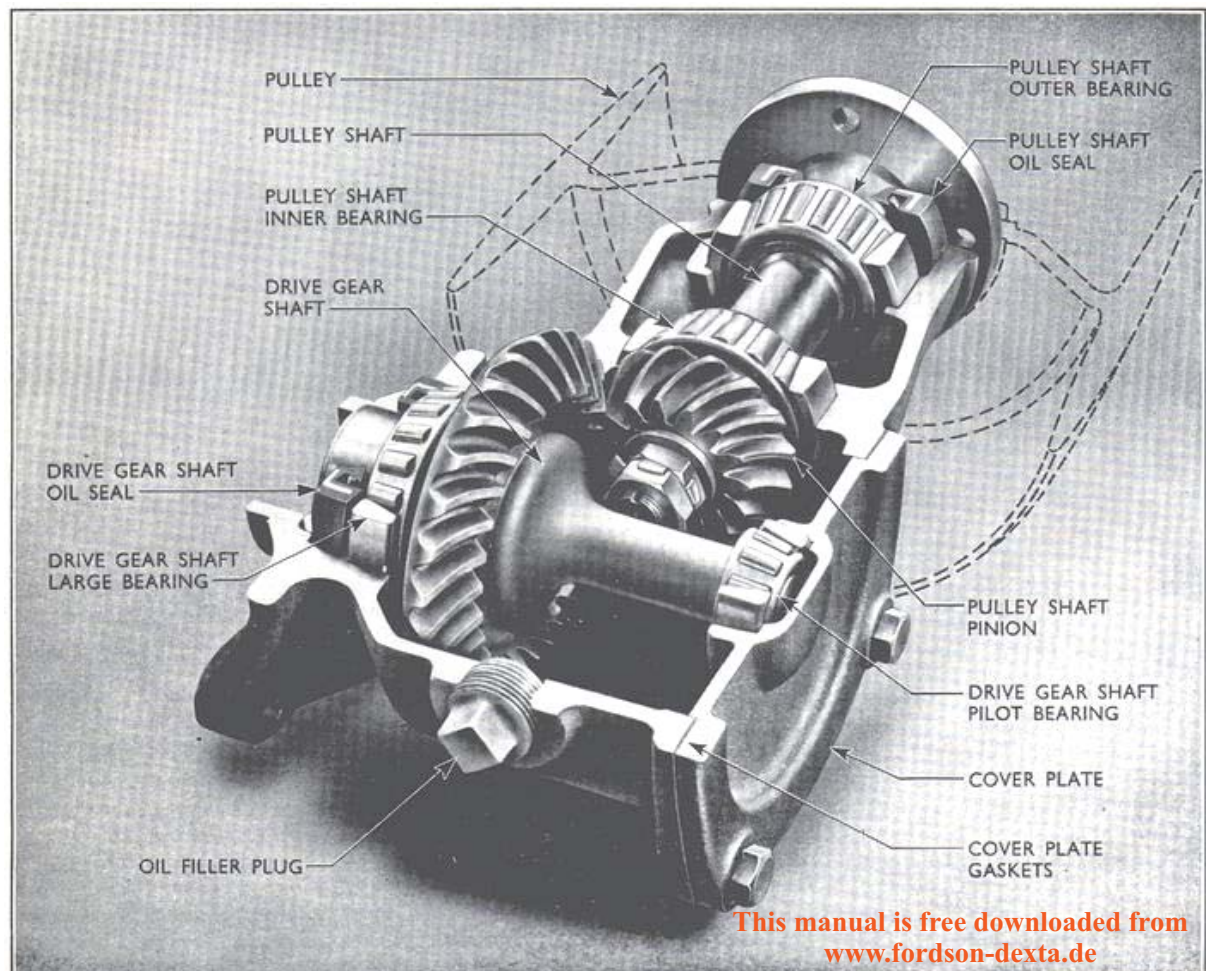

Fig. 7
3. When the housing is empty of oil remove the four screws securing the cover plate and lift it away from the housing. The cover plate is spigot-located in the housing (see Fig. 7) which, together with the use of sealing compound at the joint, may make it necessary to tap the plate out of position and in such circumstances, care must be taken not to damage the edges of the joint faces of the plate or housing. Remove any aluminium foil cover plate gaskets which come away with the cover plate or which may remain on the face of the housing.
5. Straighten the tabs of the locking washer fitted between the two locknuts on the inner end of the pulley shaft (see Fig. 7). Remove the locknuts, locking washer and plain washer to enable the pulley shaft to be withdrawn from the housing, if necessary driving it out of position using a suitable brass or copper drift against the flanged end of the shaft. As the shaft moves out of the housing its splined diameter will pass out of the pulley shaft bevel pinion and through the pulley shaft inner bearing cone leaving them inside the housing, whilst the pulley shaft outer bearing cone will come away with the shaft and draw the pulley shaft oil seal out of the housing with the shaft. With the pulley shaft removed, extract the bevel pinion and inner bearing cone from the housing.
The spiral bevel gear which is incorporated in the drive gear shaft and the pulley shaft pinion (see Fig. 7) are manufactured as matched pairs and for this reason neither of these parts should be renewed individually i.e. if it is necessary to fit a new drive gear shaft a new pulley shaft pinion must also be fitted and vice-versa.
1. To fit a new drive gear shaft oil seal to the housing use Tool T.7087 with the 550 handle, inserting the tool through the housing cover plate aperture to drive the seal into the appropriate bore in the housing. Always ensure that when the oil seal is installed its sealing lip faces into the housing (see Fig. 7).
14. Install the pulley on the flange of the pulley shaft with the rim of the pulley closest to the offset pulley hub away from the housing (see Fig. 7). Secure with the four screws and spring washers, tightening the screws to a torque of 40 to 45 lbs. ft. (5.5 to 6.2 kg.m.).